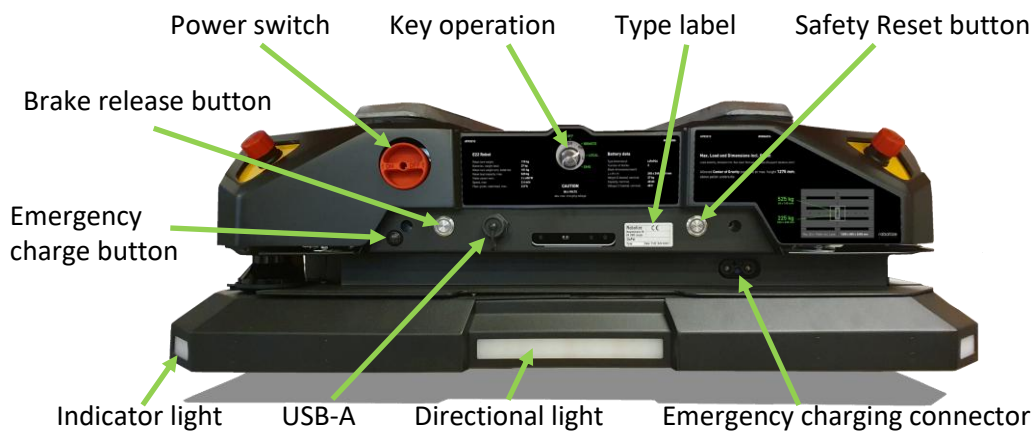
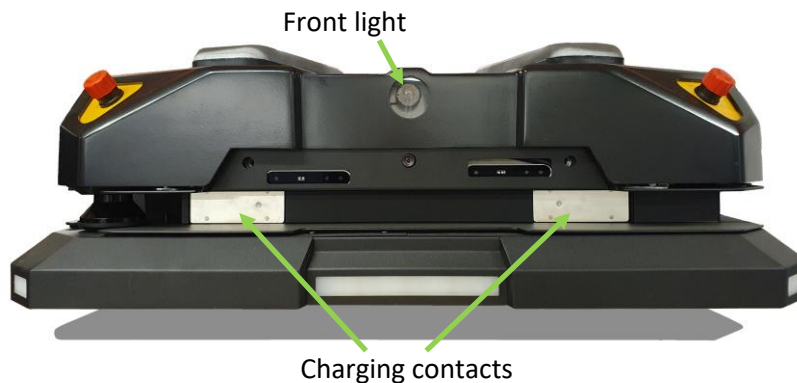

Figure 6 GoPal E22 rear view
Figure 7 GoPal E22 front view
The Safety Reset button (see *Figure 6*) is located at the rear of GoPal. If the mechanical bumper or any of the emergency stop buttons have been triggered, this button must be pressed to reset the safety system of the robot. After holding the Safety Reset button for a minimum of 1 second, GoPal will emit an audible warning signal and flash a light to indicate its active state.
The Brake Release button (see *Figure 6*) is located at the rear of GoPal. To release the robot's brakes, press this button while the key switch is in the "Emg" position. The brakes will remain released if the button is pressed, allowing the robot to be moved away from an object if its bumper has been engaged.
The key switch, located at the rear of the robot (see *Figure 6*) is used to control GoPal. The key switch has several positions:
The USB-A interface, located at the robot's rear (see *Figure 6*), is used for maintenance and service activities and configuration settings.
The automatic battery charging connector points are located at the front of GoPal (see *Figure 7*). These connectors are used when GoPal is docked at a Charging Station for charging. An emergency charge connector is located at the rear of GoPal (see *Figure 6*). This connector is typically not used but can be employed if an error prevents GoPal from driving into a Charging Station. The robot will not drive while emergency charging is in progress.
The Emergency Charge Button is located at the rear of the robot (see *Figure 6*). Use this button for emergency charging when the robot's battery is critically low and it is unable to charge, even when connected to charging power.
- Connect the provided DC power cable to the robot's emergency charge connector. (see *Figure 6*)
The GoPal robot is equipped with operating lights (see *Figure 6*) that function in the same way as those on a car. GoPal has white lights at the front, red braking lights at the rear, and orange corner lights that function as indicators when turning.
Additionally, GoPal has a powerful green light installed at the front (see *Figure 7*) illuminating the floor several meters in front of the robot. The purpose of this light is to alert other traffic to an approaching GoPal robot.